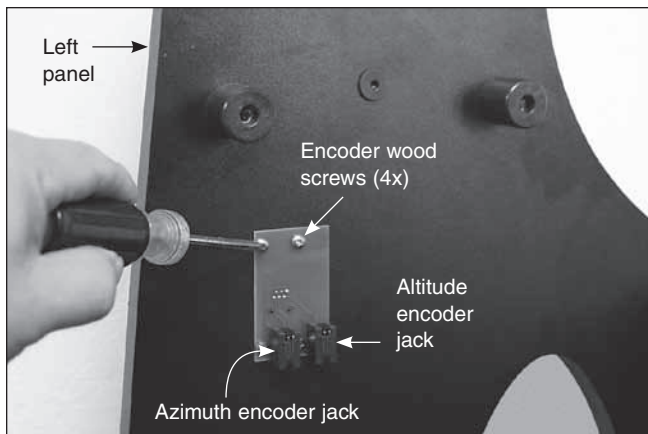

Figure 14. Attach the encoder connector board to the left side panel with four of the encoder wood screws and four encoder connector board washers.
to do, but by lightly pressing the screw tips into the holes, they should “stick” enough so that you can screw them in without one or more of them (and the washers) falling out. Using a small Phillips screwdriver, tighten all four screws (**Figure 14**).
the encoder jack in the top baseplate of the Dobsonian base. Connect the other end to the encoder connector board installed on the base's left side panel. The azimuth encoder cable should plug into the jack on the *left* side of the encoder connector board (**Figure 14**).
20. Connect one end of the altitude encoder cable (the longer of the two flat cables in the IntelliScope kit) to the modular jack on the altitude encoder assembly. Connect the other end of the altitude encoder cable to the jack on the right side of the encoder connector board (**Figure 14**).